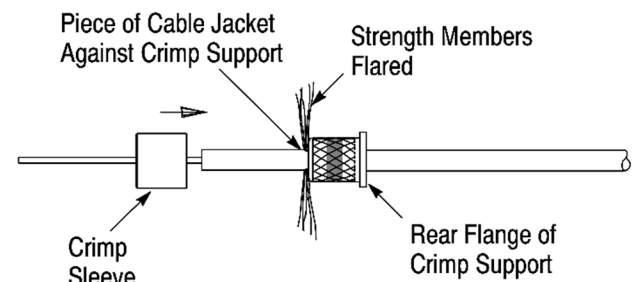

Figure 4
1. Apply a continuous bead of the instant adhesive around the cable jacket between 4 and 5 mm from the stripped end of the jacket. See Figure 4, Detail A.
2. Rotate and slide the crimp support (large diameter end first) over the fiber and strength members and onto the jacket until it bottoms (rotating the crimp support between the thumb and index finger will help feed the strength members through the crimp support). See Figure 4, Detail B.
3. Apply a thin band of the instant adhesive around the knurled portion of the crimp support. Make sure that the band is continuous around the entire circumference. See Figure 4, Detail C.
4. Slide the piece of cable jacket (stripped from the jacket in Paragraph 5.1) over the buffered fiber and into the center of the strength members until it bottoms against the crimp support and the strength members are flared away from the fiber. See Figure 4, Details D and E.
5. Slide the crimp sleeve over the fiber and piece of cable jacket so that the strength members fold back evenly around and over the crimp support and until it bottoms on the rear flange of the crimp support; then remove the piece of cable jacket. This step should be performed quickly before the adhesive begins to harden. See Figure 4, Detail E.